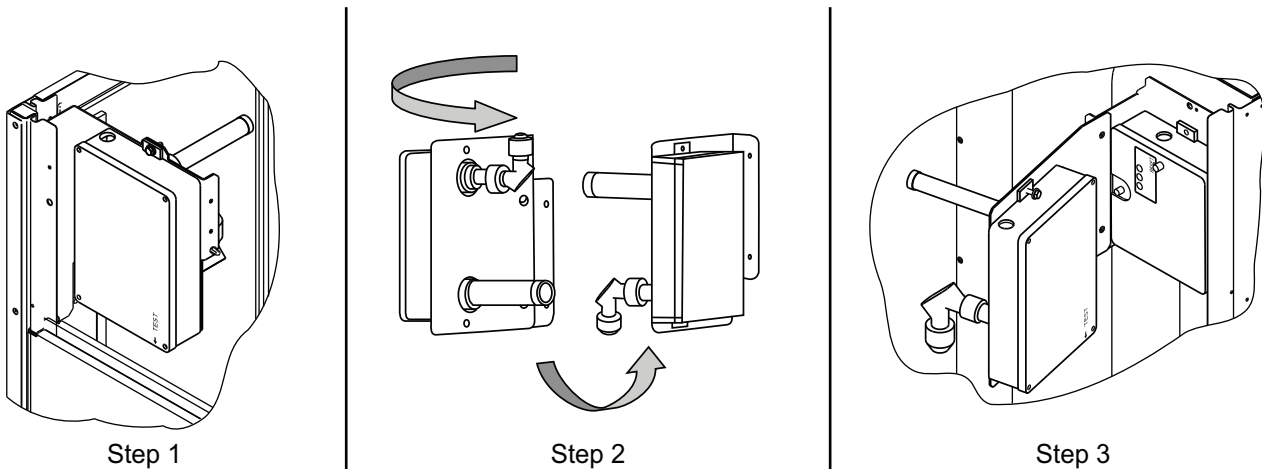

Fig. 67 — Completing Installation of Return Air Smoke Sensor
1. Unscrew the two screws holding the return-air smoke detector assembly. See Fig. 67, Step 1.
3. Turn the assembly 90 degrees and then rotate end to end. Make sure that the elbow fitting is pointing down. See Fig. 67, Step 2.
4. Screw the sensor and detector plate into its operating position using screws from Step 1. See Fig. 67, Step 3.